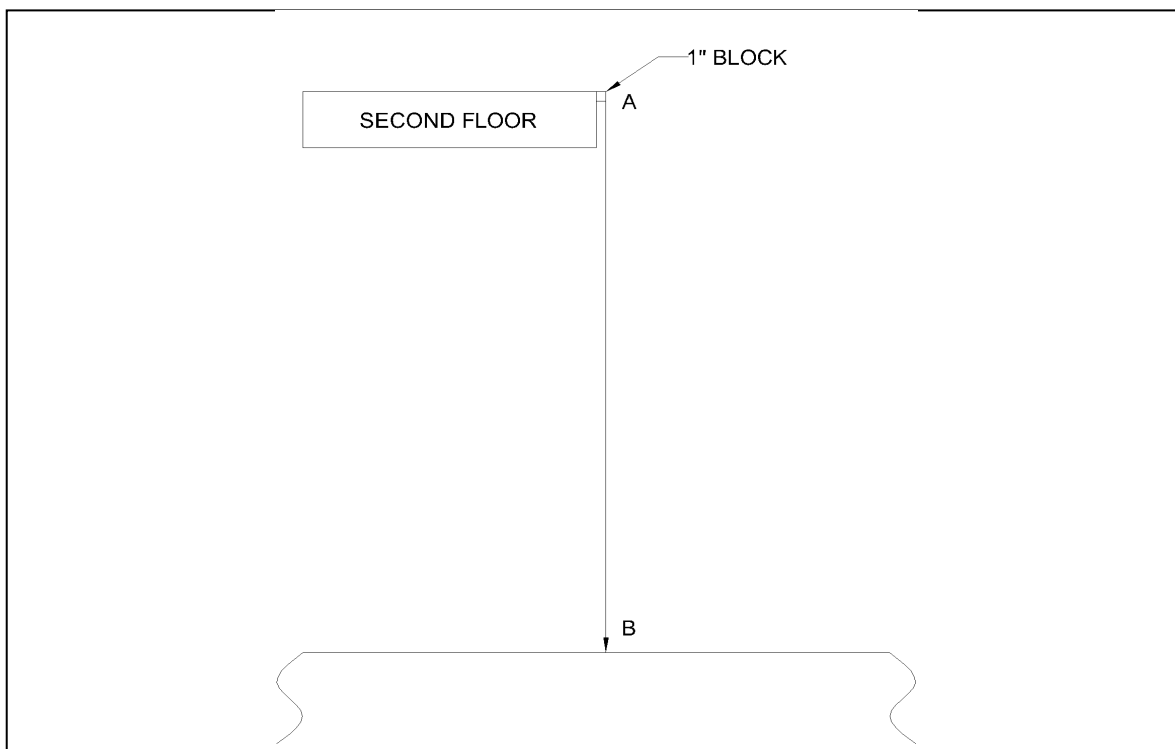

Figure 12 Locating Center of Carriage Edge on the First Floor (Side View)
- b. **Figures 12 & 13** - Drop a plumb line from the center marking of the carriage position at the second floor holding the plumb line one inch out from the edge of the landing (one inch is a standard distance for clearance - deviations may occur), or point A, down to the first floor and mark point B as the carriage center (check the GA drawing for any other special considerations).